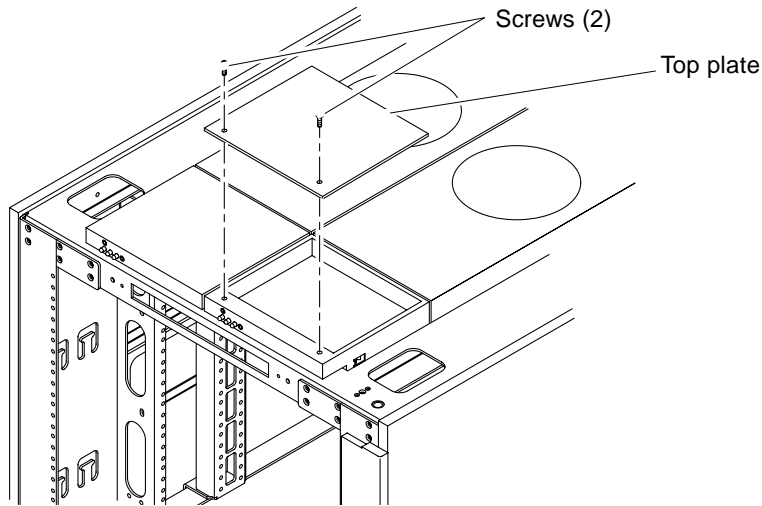

FIGURE 6-3 Fan Tray Top Plate
4. Loosen and then remove two screws from fan assembly top plate (FIGURE 6-3).